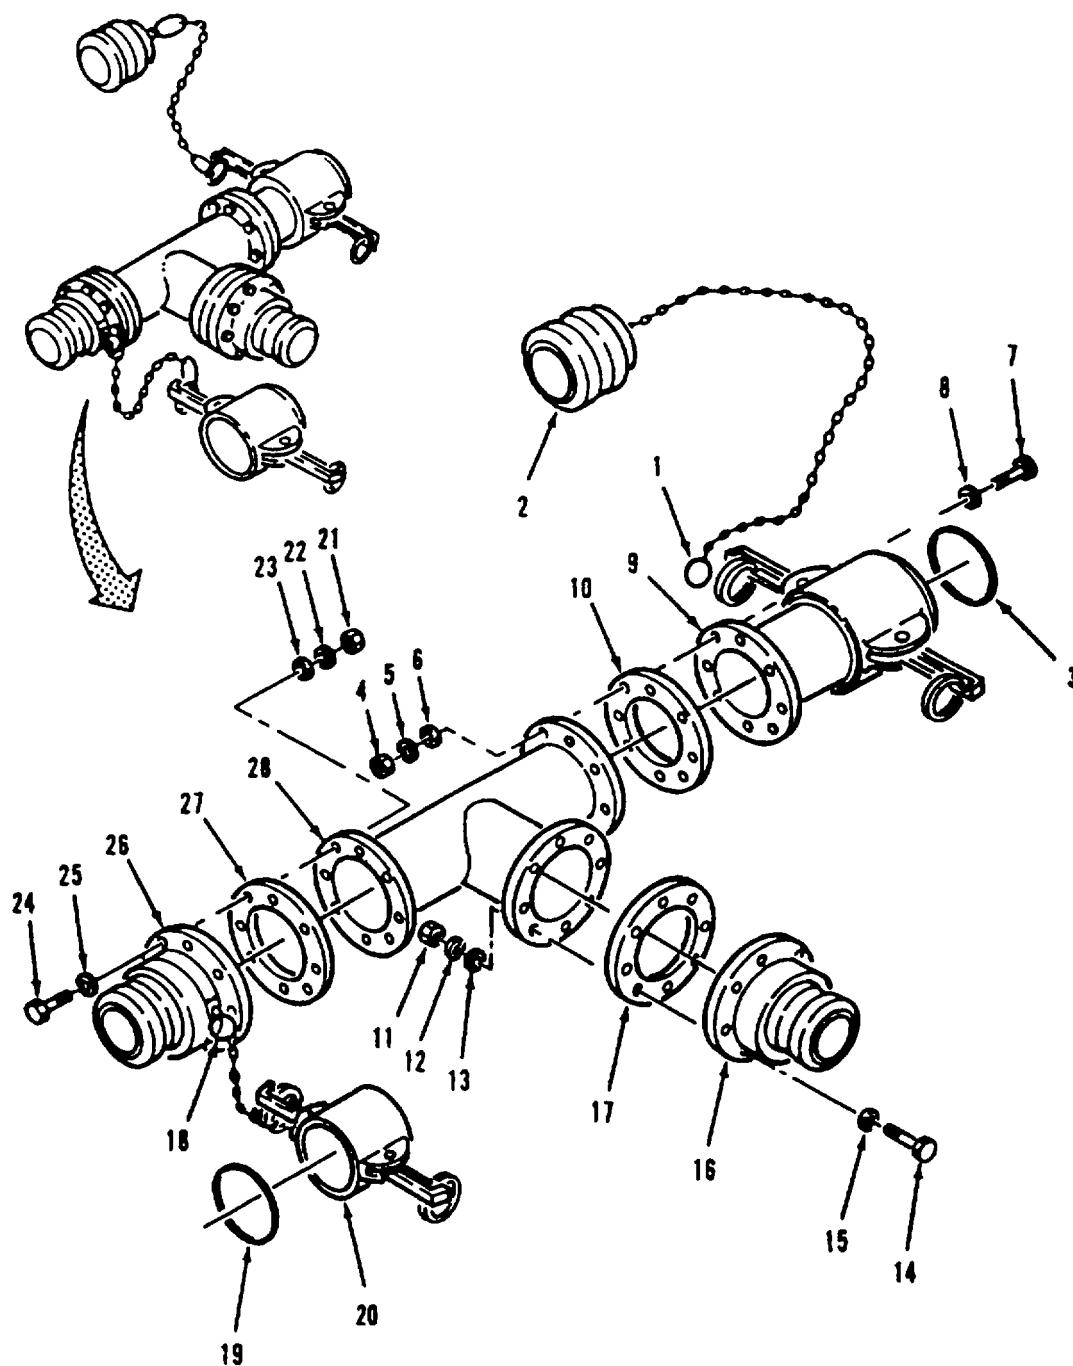

Figure 4-8. Tee Assembly (9117-Y1) Disassembly
a. Disassembly. Refer to Figure 4-8.
- (1) Disconnect ring (1) from female coupling (9) and remove plug (2).
- (2) Remove gasket (3) from female coupling (9).
- (3) Remove eight nuts (4), lockwashers (5), flat washers (6 and 8), and bolts (7).
- (4) Separate female coupling (9) and gasket (10) from tee (28).
- (5) Remove eight nuts (11), lockwashers (12), flat washers (13 and 15), and bolts (14).
- (6) Separate male coupling (16) and gasket (17) from tee (28).
- (7) Disconnect ring (18) from male coupling (26) and remove cap (20).
- (8) Remove gasket (19) from cap (20).
- (9) Remove eight nuts (21), lockwashers (22), flat washers (23 and 25), and bolts (24).
- (10) Separate male coupling (26) and gasket (27) from tee (28).